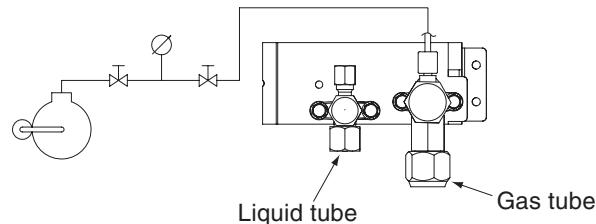

Fig. 6-2
- (6) Both the gas and liquid tube service valves are open. If not, open them now. (Fig. 6-2)
- (7) Request that the customer be present for the trial run. Explain the contents of the instruction manual, then have the customer actually operate the system.
- (8) Be sure to give the instruction manual and warranty certificate to the customer.
- (9) When replacing the control PCB, be sure to make all the same settings on the new PCB as were in use before replacement. The existing EEPROM is not changed, and is connected to the new control PCB.